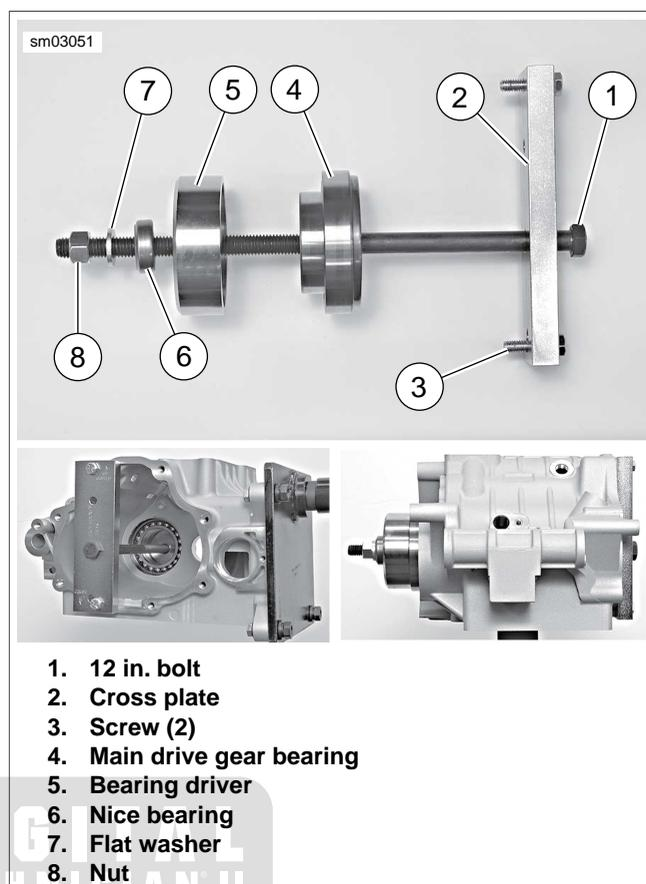

Figure 7-46. Installing Main Drive Gear Bearing (Typical)
- See Figure 7-46. Place CROSS PLATE (Part No. HD-35316-3A) (2) on right side of transmission case as shown, and secure with two screws (3). Position cross plate so that large bolt hole in cross plate is lined up with center of main drive gear bearing bore in left side of transmission case.
- Apply a light coat of graphite lubricant to the threads of 12 IN. BOLT (Part No. HD-35316-5) (1) and install through cross plate and main drive gear bearing bore.
- At left side of case, place main drive gear bearing (4), BEARING DRIVER (Part No. HD-35316-8) (5), NICE BEARING (6), FLAT WASHER (7) and NUT (8) over end of bolt.